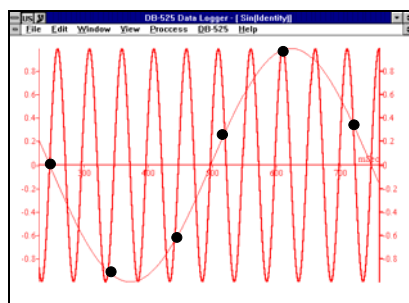

Figure 2: Frequency Aliasing
**Note:** Sampling at a rate slower than the expected rate can cause *frequency aliasing*. In such a case, the graph will show a frequency much lower than expected. In Figure 2 below, the higher frequency sine wave was sampled at 1/3 of its frequency. Connecting the sampled points yielded a graph with a lower, incorrect frequency.